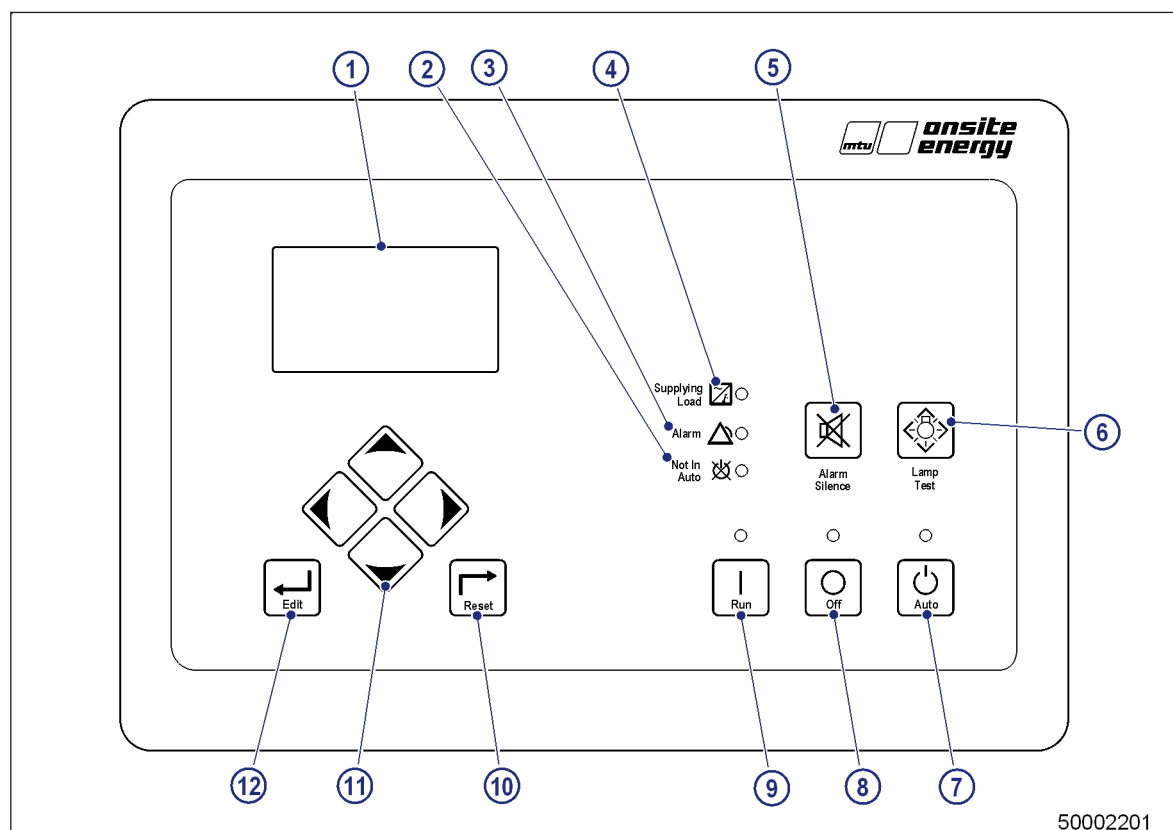

Figure 9: Control panel with MGC-2000 Series – Controls and indicators
The wide temperature-range LCD with backlighting can be viewed under a wide range of ambient light and temperature conditions. The figure (→ Figure 9) shows the display of the MGC-2000 Series in detail.
* Numbers correspond to (→ Figure 9).